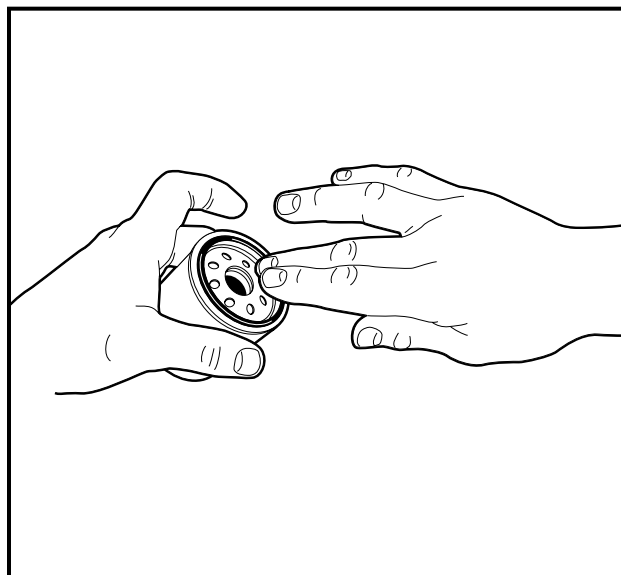

Figure 25 Coat Rubber Seal
11. To help seal the new oil filter to the oil mounting bracket, apply a light coat of white lithium NLGI Number 2 grease (Dow Corning® BR2-Plus or equivalent) or new engine oil to the rubber seal around the outside surface of the filter before attaching it to the oil filter port (**Figure 25**). Install the new oil filter (gas: CCI P/N 102443401, diesel: CCI/PN 102628401) onto the engine oil filter port. **See following NOTE.**